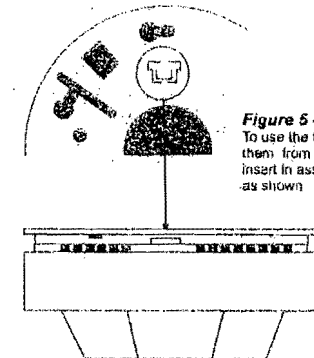

Figure 5 - Fitting tamperproof tabs
- If the Heat Alarm is to be locked into position the two tamperproof tabs need to be removed from the base plate. Retain until final assembly of alarm. Figure 5
Insert the two tamperproof tabs in the positions provided between the base plate and alarm unit. Once fitted the alarm can only be removed from the base plate by first removing these tabs by gently prying out with a screw driver. See Figure 5